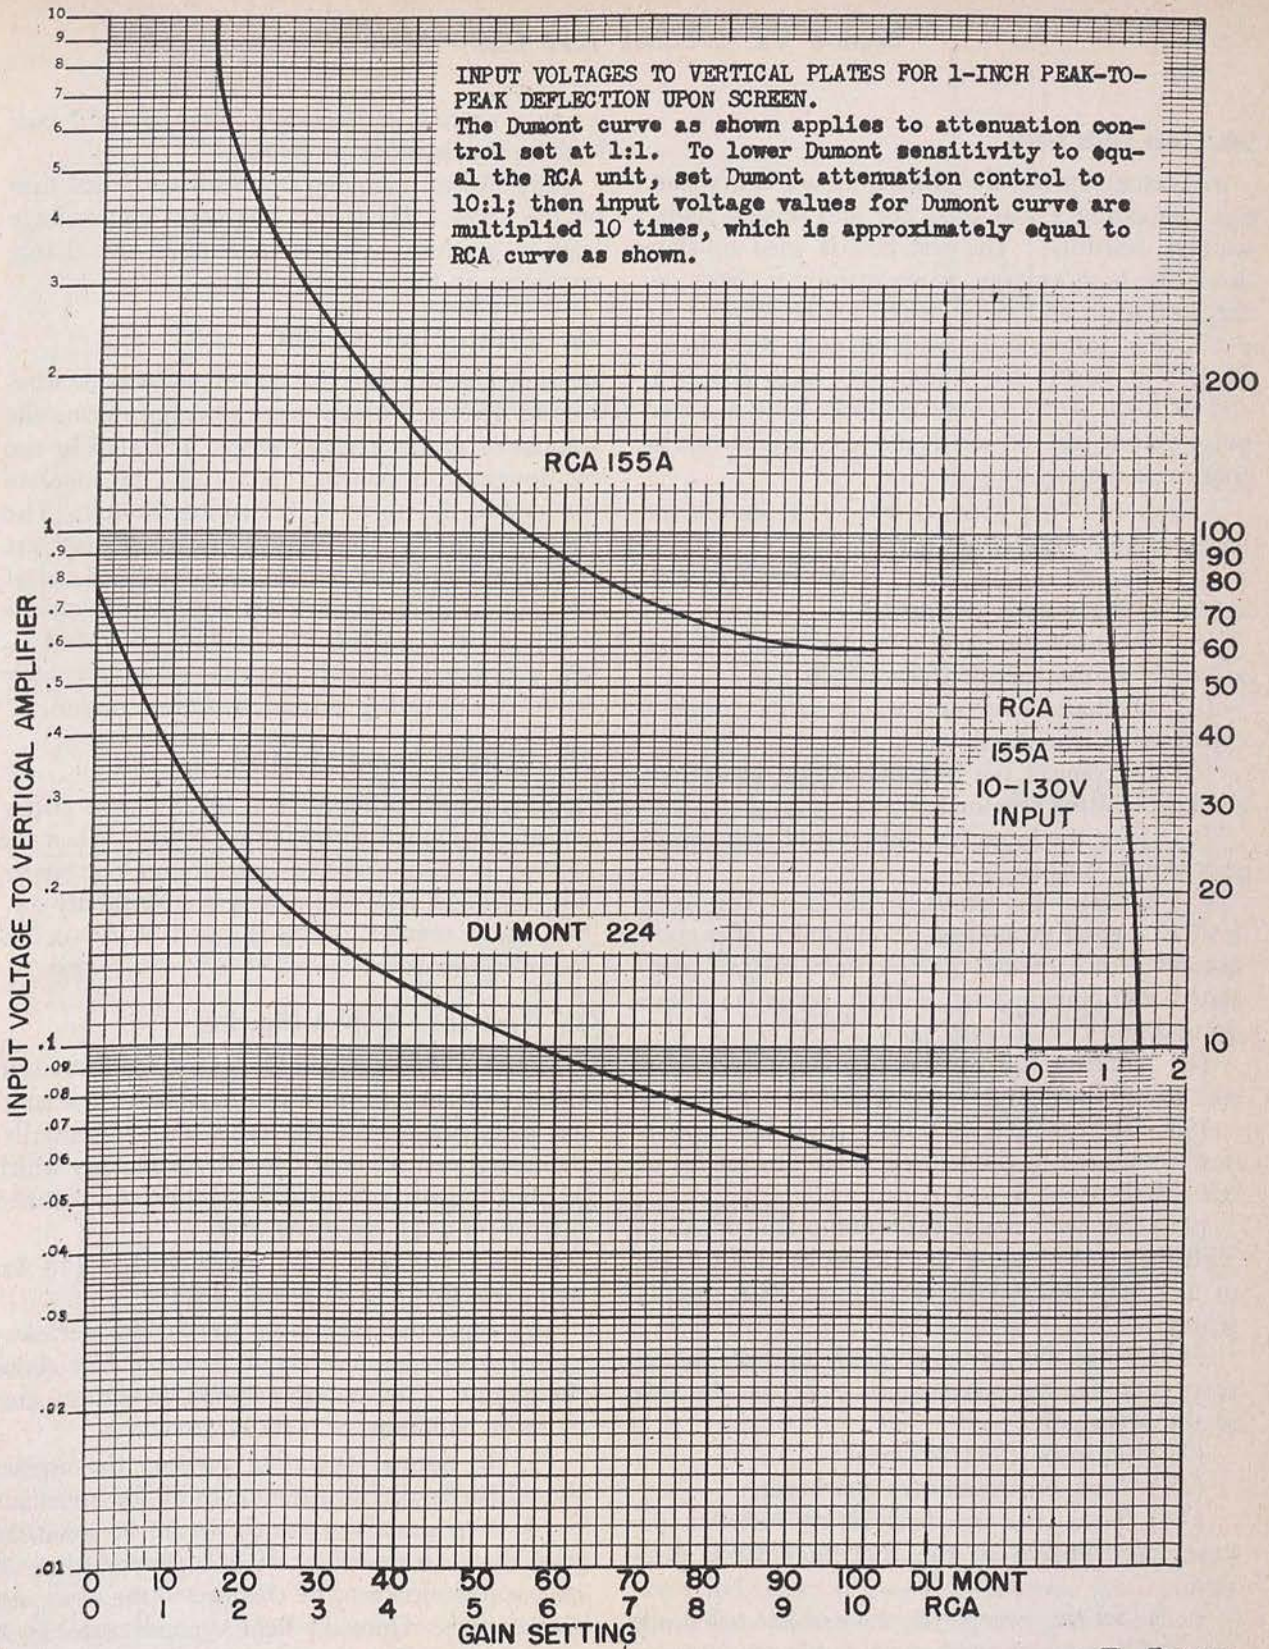

Figure 21. Voltage calibration chart of RCA and Du Mont oscilloscopes.
(2) Both horizontal and vertical amplification circuits use 6C6 tubes for gain control (V4 and V5).
(3) V3, an 884 gaseous triode, furnishes the time base or sweep voltage for the oscilloscope. It is possible to vary the time base by changing the setting of the variable resistance R-8.
a. It is occasionally desirable to test the sensitivity of the test oscilloscope in order to determine whether the vertical amplifier is working properly. This may be done by applying a known audio-frequency voltage from the test oscillator to the VERTICAL AMPLIFIER terminals of the test scope in order to obtain a 1-inch peak-to-peak image. The VERTICAL GAIN setting of the scope is then compared with the calibration chart shown in figure 21. This chart applies in general to the Du Mont model 224 and the RCA model 155A as found in Test Set RC-70. If it is found that the GAIN setting of the oscilloscope and the known input-voltage readings fall approximately on the curve, the vertical amplifier and its associated circuits may be assumed to be working properly. On the other hand, if it is found that the gain of the test scope must be turned far in excess of that indicated on the calibration chart, a deficiency of the sensitivity of the scope is indicated. Or, putting this differently, after first setting the test scope VERTICAL GAIN control at some convenient setting, if the signal voltage from the test oscillator is greatly in excess of that indicated by the calibration chart in order to produce a 1-inch peak-to-peak signal, a defect exists in the vertical amplifier or its associated circuit.